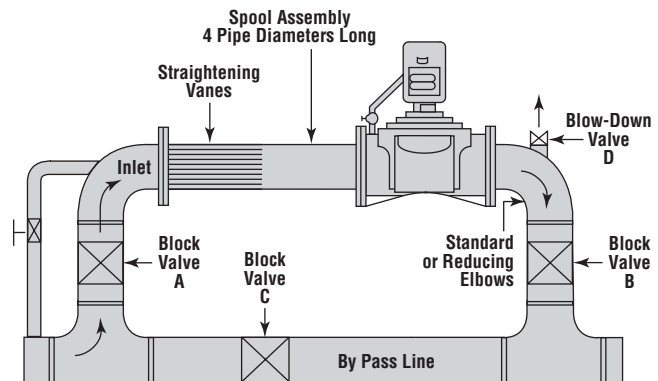

Figure 5
- B. An installation of a by-pass line around the meter is recommended for all piping configurations (refer to figure 5.)
Provision for a controlled pressure blow-down of the meter run should be made. The blow-down should be located between the meter outlet flange and the downstream block valve (shown in figure 5). While Turbo-Meters can be operated up to 150 percent of maximum rated capacity for short periods of time with no damaging effects, over-sized blow-downs can cause speeds greatly in excess of this amount. On inside meter sets, blow-down should not be sized larger than one-sixth the meter size as described in the following table:
Start-Up (Refer to Figure 5)
On high pressure installations, a valved bypass around the inlet riser block valve ("A" in Figure 5) is recommended. Usually constructed of 3/4" pipe, with a needle-type valve, the by-pass permits pressurizing of the meter run without damaging the meter. Once the inlet pressure has been achieved, as indicated by lack of any registration on the meter, the needle valve is closed and Steps #2, #3 and #4 in start-up procedure should be followed.
Shut Down (Refer to Figure 5)